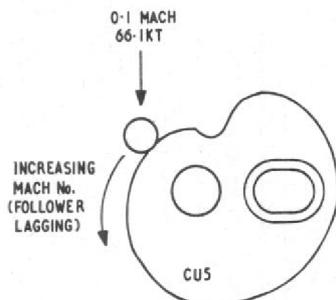

Fig. 4. Adjustment of $1/2 \log (1 + 0.2KM^2)$ cam CU5
31. Set T4 on test set, Type 9B to 2080 (66.1 kt) and check that the gearbox comes to rest with the cam follower of CU5 in the position shown in fig. 4. If necessary release the clamp locking CU5 and adjust the follower to this position.